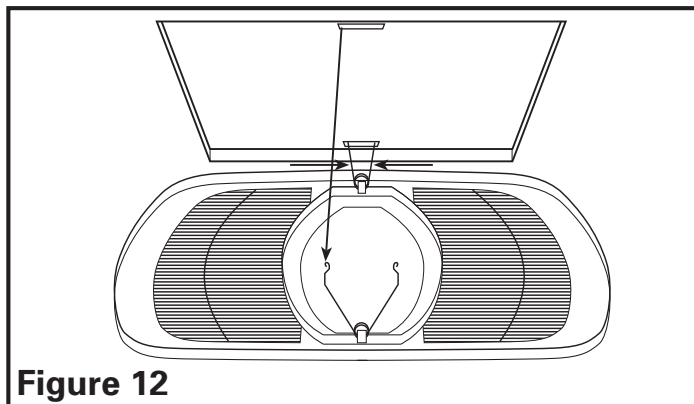

Figure 12
3. **Changing the Lamp:** Disconnect power to the unit. Remove grill by pulling downward on grill and squeezing grill springs together to release from housing (**Figure 12**).